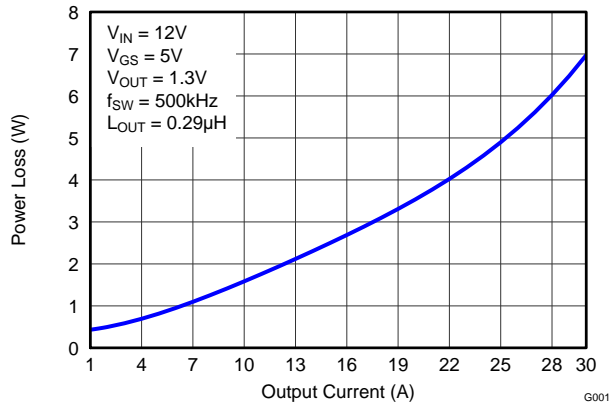
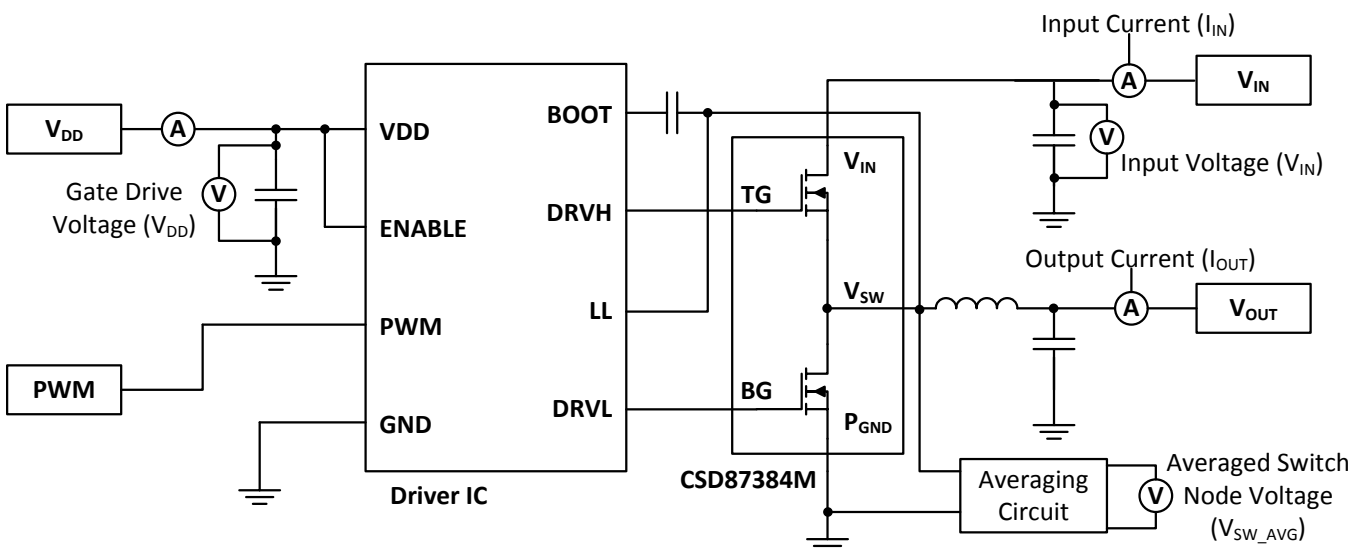

Figure 1. Power Loss vs Output Current
Figure 27. Typical Application
MOSFET centric parameters such as $R_{DS(ON)}$ and Q_{gd} are needed to estimate the loss generated by the devices. To simplify the design process for engineers, TI has provided measured power loss performance curves. Figure 1 plots the power loss of the CSD87381P as a function of load current. This curve is measured by configuring and running the CSD87381P as it would be in the final application (see Figure 27). The measured power loss is the CSD87381P loss and consists of both input conversion loss and gate drive loss. Equation 1 is used to generate the power loss curve.
The power loss curve in Figure 1 is measured at the maximum recommended junction temperatures of 125°C under isothermal test conditions.
- Power Loss at 20 A = 3.5 W (Figure 1)